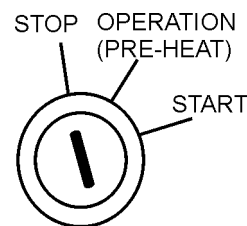

**Figure 54. Ignition Switch (Stop Position)**
- Place the ignition switch (Figure 54) in the “**STOP**” position, remove the key and store in a safe place.